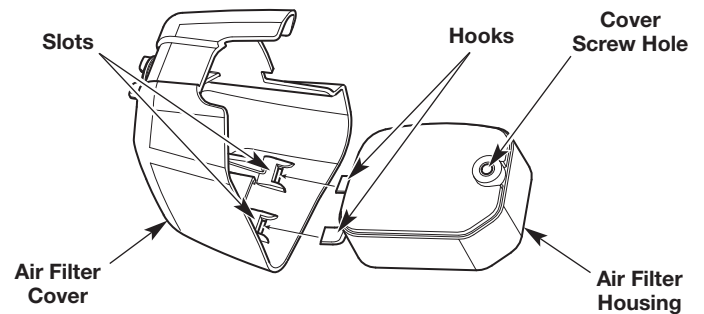

Fig. 20
7. Insert the hooks on the air filter housing into the slots on the air filter cover (Fig. 20).
8. Swing the air filter cover to the right and align the cover screw with the cover screw hole (Fig. 20). Tighten the cover screw to secure the air filter cover.